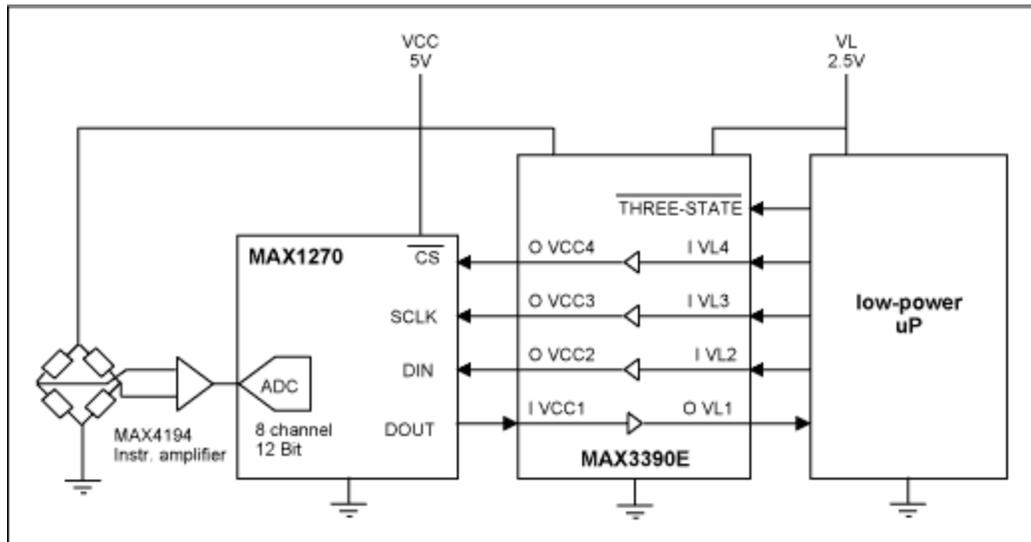

Figure 5. The MAX3390E level translator in an SPI-bus application.
**Figure 5** shows a typical application for the MAX3390E level translator in a battery-powered measurement circuit. A MAX4194 low-power instrumentation amplifier amplifies the signal from the bridge. The signal is AD-converted by the MAX1270, a 12-bit 8 channel ADC. The supply voltage for the analog front-end is 5V, the low-power  $\mu$ P has a supply of 2.5V. The MAX3390E level shifts the SPI signals from 2.5V to 5V and from 5V to 2.5V for the DOUT signal.